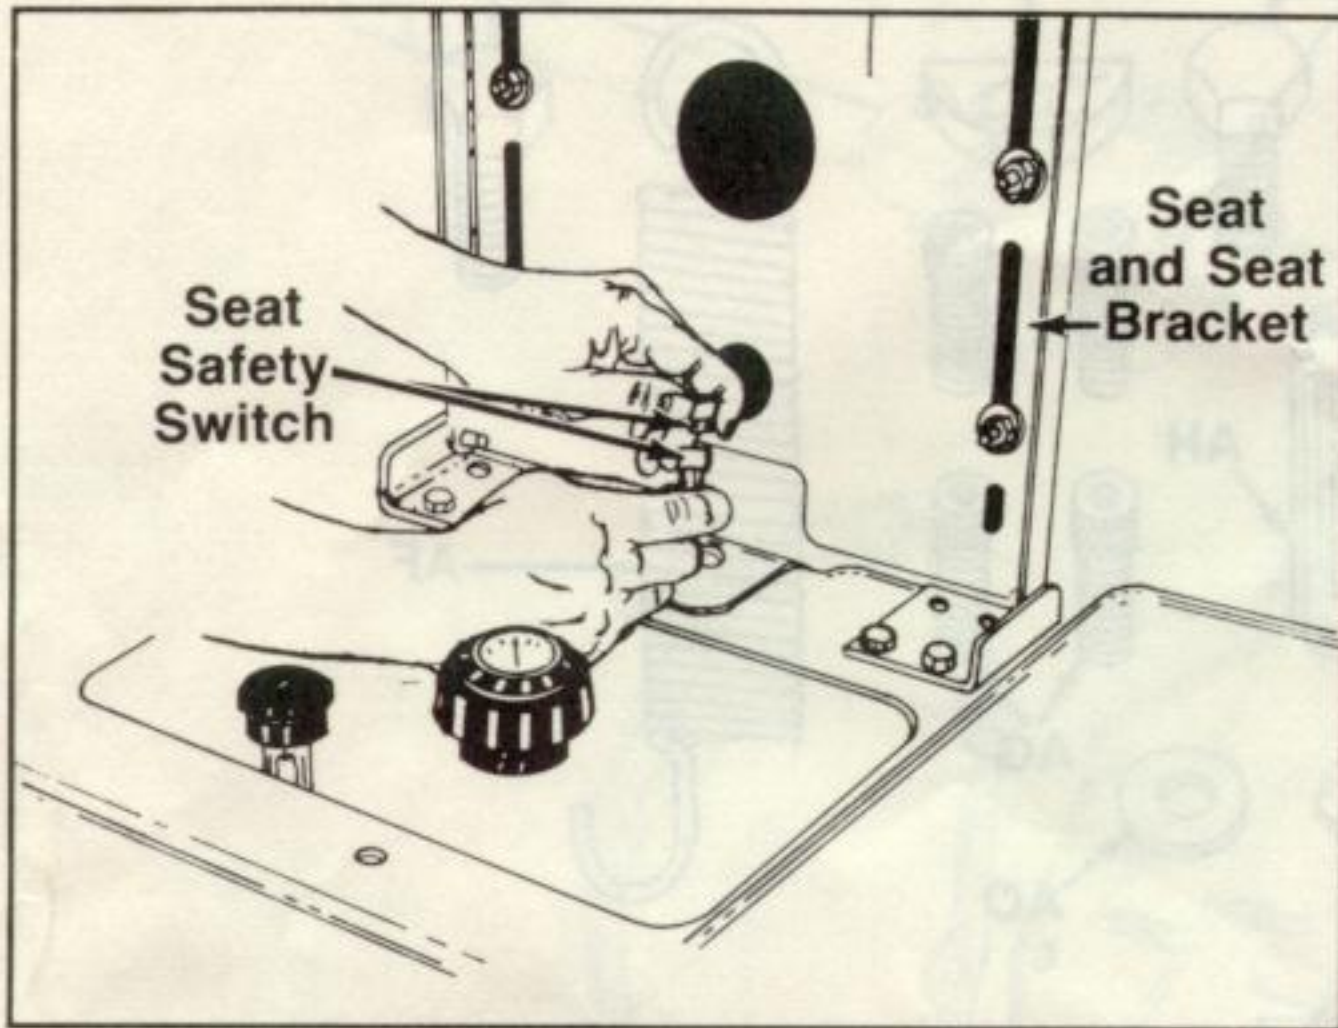

FIGURE 1.
2. Raise the seat and seat bracket. Unplug the seat safety switch. See figure 1. Model 1572 only.